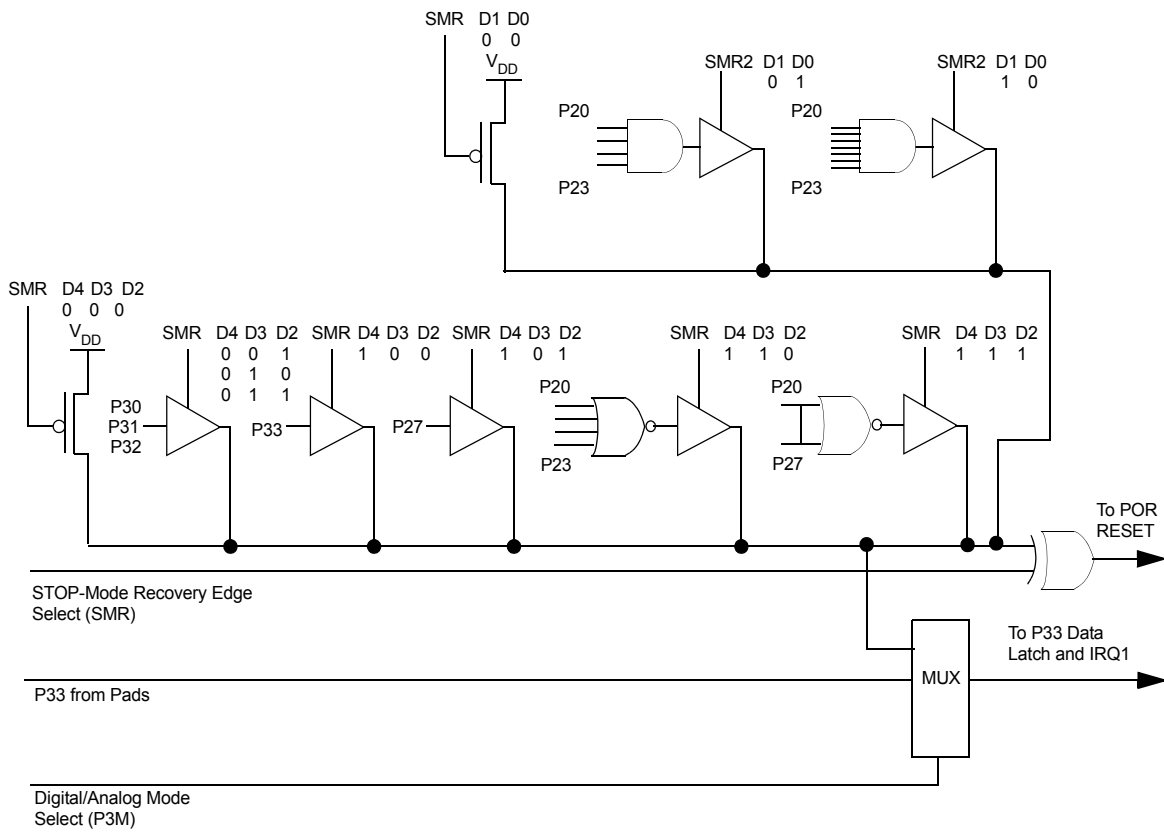

Figure 32. Stop Mode Recovery Source
**Stop Mode Recovery Source (D2, D3, and D4).** These three bits of the SMR register specify the wake up source of the Stop Mode Recovery (Figure 32). Table 22 shows the SMR source selected with the setting of D2 to D4. P33-P31 cannot be used to wake up